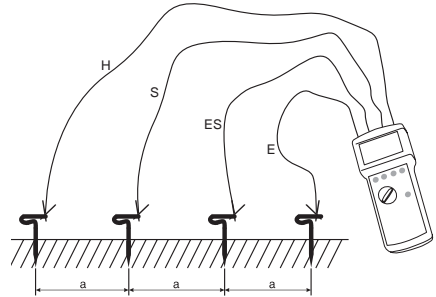

Figure 7: Specific Earth resistance measurement
- ▶ Place the four earth rods for E, ES, S, H in one line, in accordance with Figure 7. The distance between each probes must match the value used in the formula. Carefully place the test leads making sure that the test leads are not parallel to each other and do not cross to avoid coupling.
- ▶ Connect test leads to earth rods according to Figure 7.
- ▶ Select "4 pole" measurement by using selection switch (13).
- ▶ Set contact voltage by using key "UL" (11).
- ▶ If required choose manual frequency selection by using key "auto/man" (16), and select test frequency with key "f1/f2" (12).
- ☞ After the measurement, selection can be made between display of earth resistance (RE), auxiliary resistance (RS) and measurement current (IM) by using key "Display" (8), depending on the measurement result.